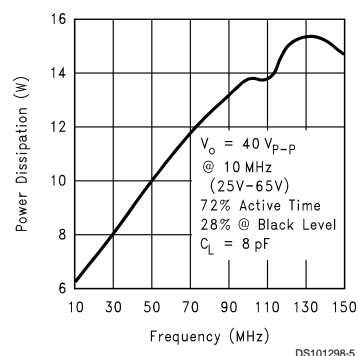
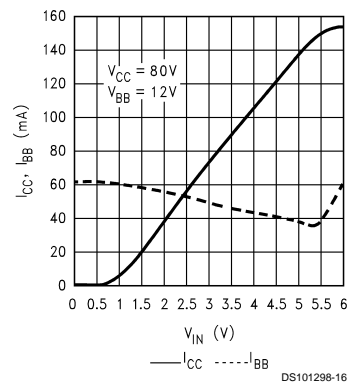

FIGURE 6. Power Dissipation vs Frequency
FIGURE 14. I_{CC} and I_{BB} vs V_{IN}
Figure 6 shows the total power dissipation of the LM2412 vs. Frequency when all three channels of the device are driving an 8 pF load. Typically the active time is about 72% of the total time for one frame. Worst case power dissipation is when a one on, one off pixel is displayed over the active time of the video input. This is the condition used to measure the total power dissipation of the LM2412 at different input frequencies. *Figure 6* gives all the information a monitor designer normally needs for worst case power dissipation. However, if the designer wants to calculate the power dissipation for an active time different from 72%, this can be done using the information in *Figure 14*. The recommended input black level voltage is 1.9V. From *Figure 14*, if a 1.9V input is used for the black level, then power dissipation during the inactive video time is 2.7W. This includes both the 80V and 12V supplies.
3. Subtract the 0.8W from the power dissipation from *Figure 6*. For 100 MHz this would be 13.8 – 0.8 = 13.0W.
The LM2412 case temperature must be maintained below 100°C. If the maximum expected ambient temperature is 70°C and the maximum power dissipation is 13.8W (from *Figure 6*, 100MHz) then a maximum heat sink thermal resistance can be calculated: